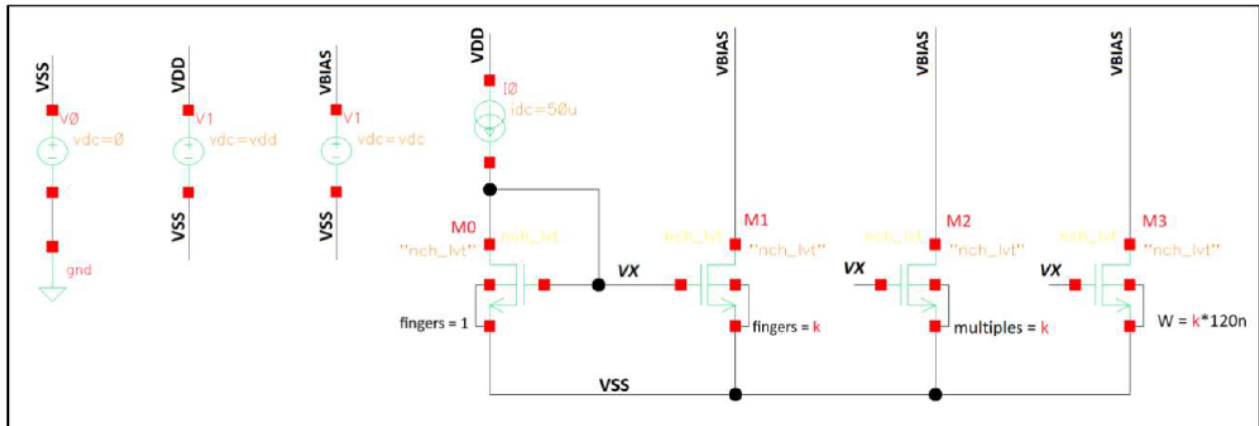

Figure 1. Schematic of the current mirror
1.3. Instruction: Assemble the circuit as shown in **Figure 1**, setting parameters for power supplies (using **vdc** source), with $L_{n,unit} = 45nm$, $W_{n,unit} = 120nm$, $vdd = 1.0V$